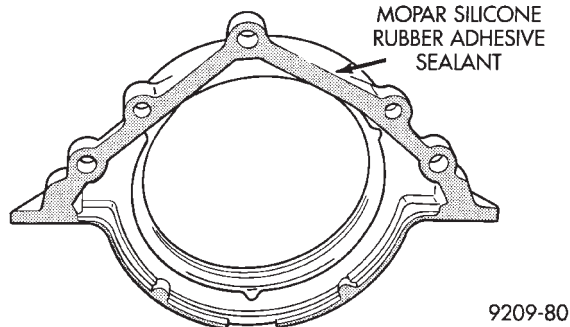

Fig. 83 Apply Sealant to Oil Seal Housing
- (3) Apply Mopar® Silicone Rubber Adhesive Sealant to oil seal retainer housing (Fig. 83).
- (4) Apply light coating of engine oil to the entire circumference of oil seal lip.
- (5) Install seal assembly on cylinder block and tighten bolts to 11 N·m (104 in. lbs.).
- (6) Install oil pan. Refer to procedure in this section.
- (7) Install flex plate. Apply Mopar® Lock & Seal Adhesive to bolt threads and tighten to 95 N·m (70 ft. lbs.).
- (8) Install transaxle. Refer to Group 21, Transaxle for procedure.